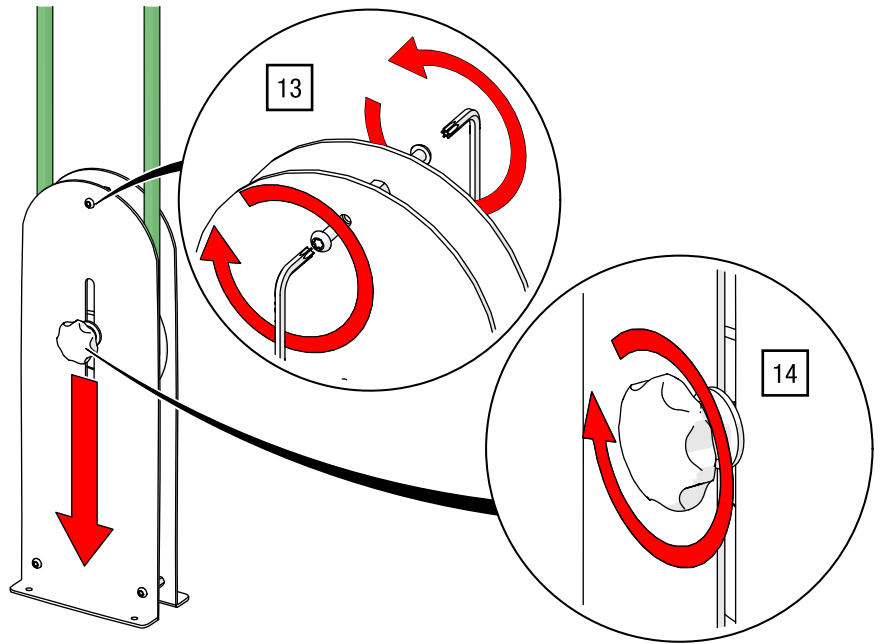

Fig. 123: Manual drive ROPE-DRIVE – Fit hemp rope pulley and tighten until tensioned
13. Refit the spacer above the roller by tightening the two screws with a TORX®-key T40 and 27 Nm (see Fig. 123).
14. Pull the star grips down until the desired cord tensioning is achieved and fix the star grips (see Fig. 123).